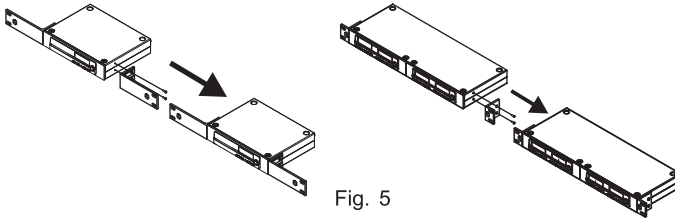

Fig. 5
- Single half-rack or single full-rack receiver: Install the optional rack mount kit and fasten with screws on both sides. Fig. 5